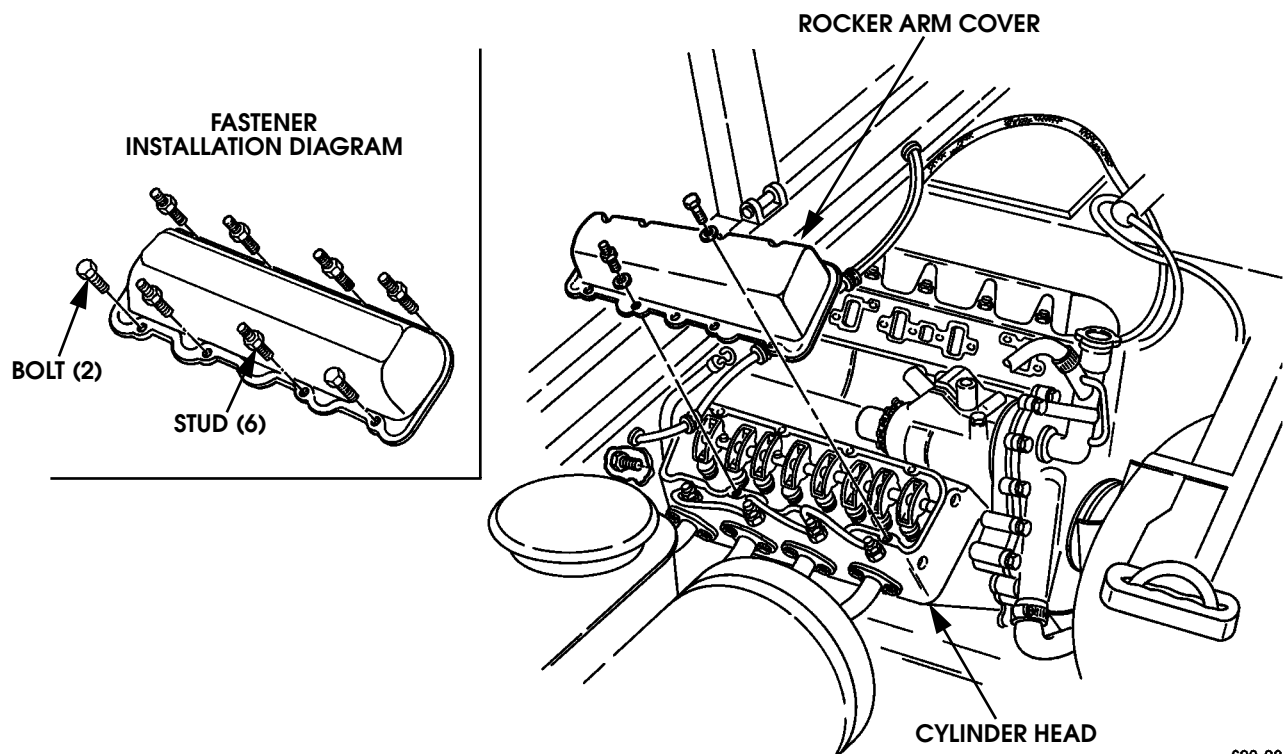

Figure 2-40: Rocker Arm Cover Removal/Installation (Right Side)
13. Remove studs and bolts attaching rocker arm cover to cylinder head (Figure 2-40).
5. Install rocker arm cover attaching studs and bolts (Figure 2-40). Tighten cover fasteners evenly to 13-25 lb-ft (18-34 N•m) torque. Start at center and work toward ends when tightening.
5. Install rocker arm cover attaching bolts and studs (Figure 2-40). Tighten cover fasteners evenly to 13-25 lb-ft (18-34 N•m) torque (Figure 2-41).